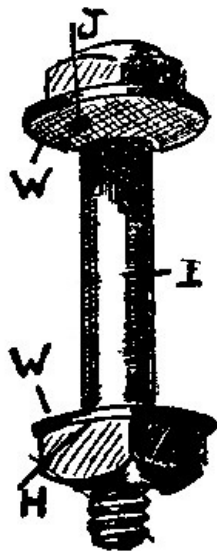

Fig. 73.
**135. Induction Coil; Construction of Coil Proper.** Figs. 73, 74. An induction coil is a peculiar and wonderful apparatus. There are at least two coils to each one. These are both wound upon the same core. They are made of different sizes of wire, are wound separately, and the strangest thing of all is, that these two coils are not connected with each other in any way. If they were not thoroughly insulated from each other, the coil would be of no value. (Study induction.) The winding of the two coils is done as explained in App. 88.